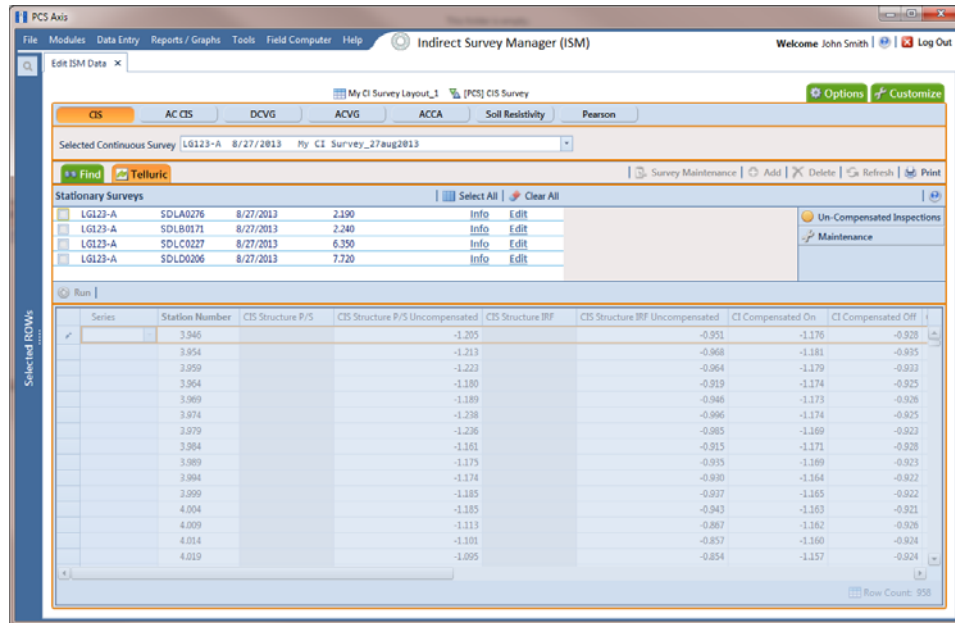

Figure 14-32. Telluric Workspace
- 4 Click the **Telluric** tab  to open the *Telluric* workspace (Figure 14-32, page 649).
A list of stationary data logger (SDL) survey files related to the selected pipeline segment and CI survey display in the *Stationary Surveys* group box of the *Telluric* workspace (Figure 14-32, page 649).